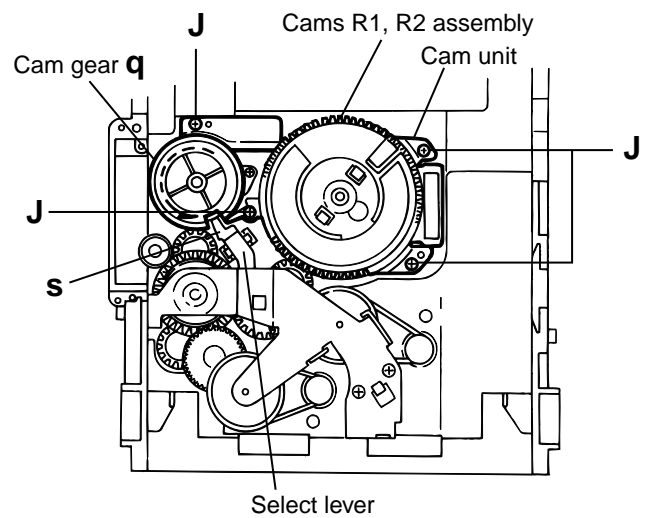

Fig.17
3. Pull out the drive unit and cylinder gear(See Fig.17).